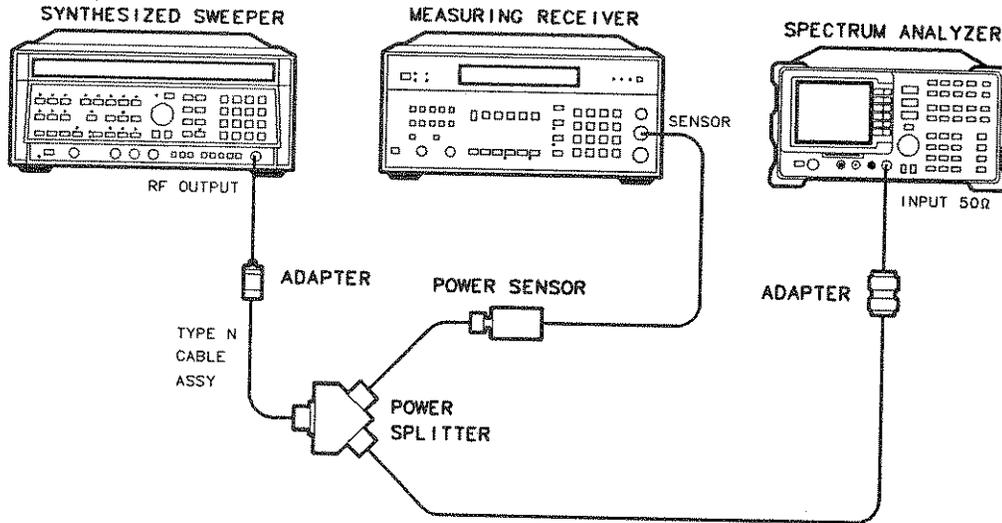
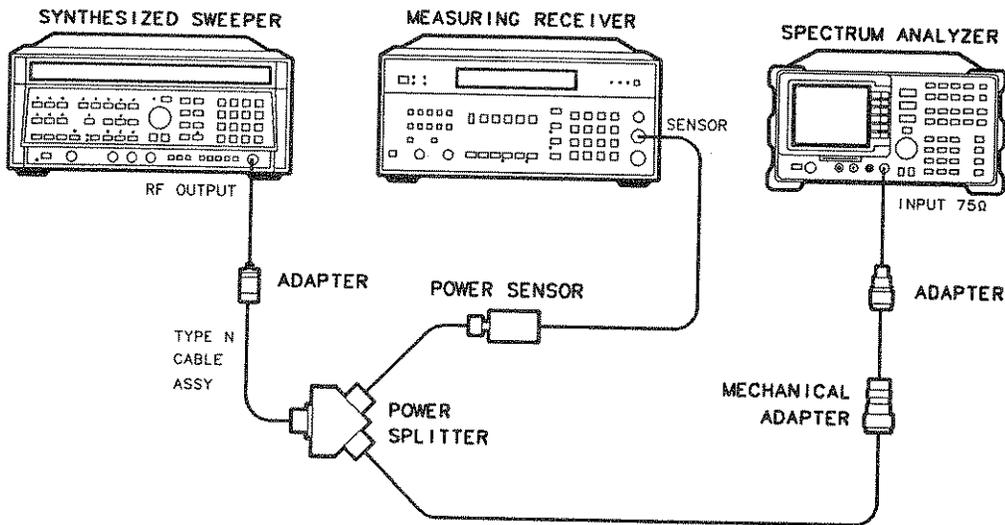

Figure 3-15. Frequency Response Test Setup, ≥ 50 MHz
Figure 3-16. Frequency Response Test Setup, ≥ 50 MHz, for Option 001
2. Connect the equipment as shown in Figure 3-15. *Option 001 only:* Refer to Figure 3-16.